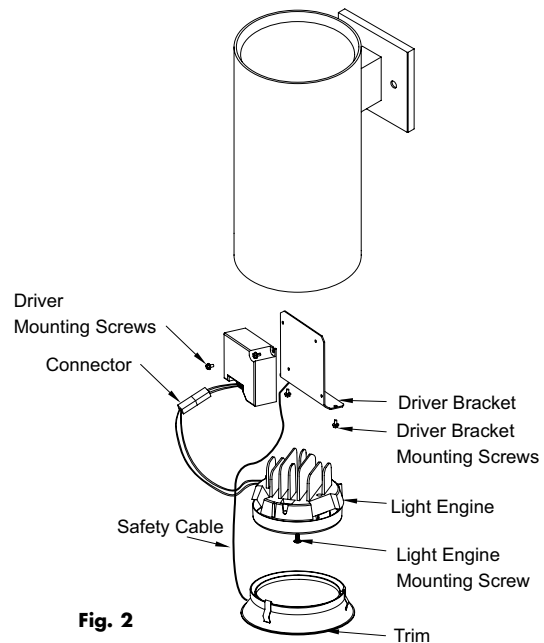

Fig. 2
2. Loosen captive screw holding the light engine. Carefully lower and disconnect light engine connector from driver connector. See Fig. 2.
2. Loosen captive screw holding the light engine. Carefully lower and disconnect light engine connector from driver connector. See Fig. 2. Set aside.
4. Remove remaining driver bracket mounting screws and lower driver bracket. Disconnect all driver wiring and replace driver by removing driver mounting screws. See Fig. 2.